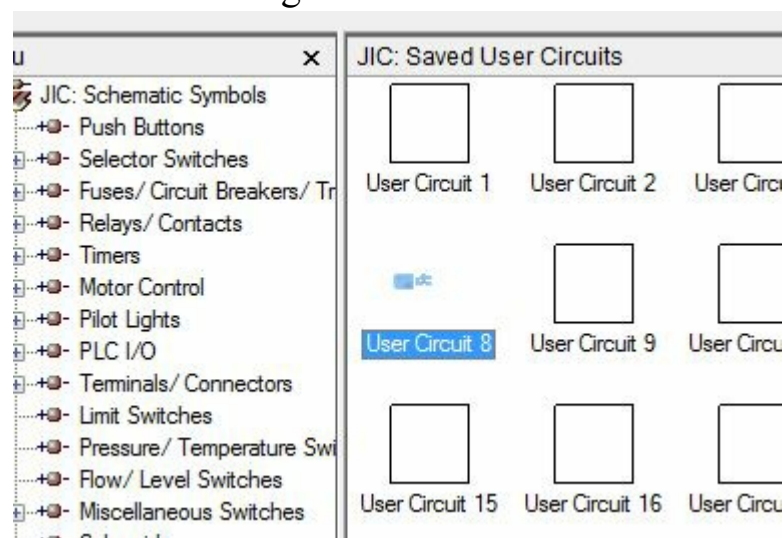

Figure-26. User defined circuit created
- Click on both the **Active** buttons one by one and click on the **OK** button from the dialog box. The current drawing will be saved as user defined circuit; refer to Figure-26.